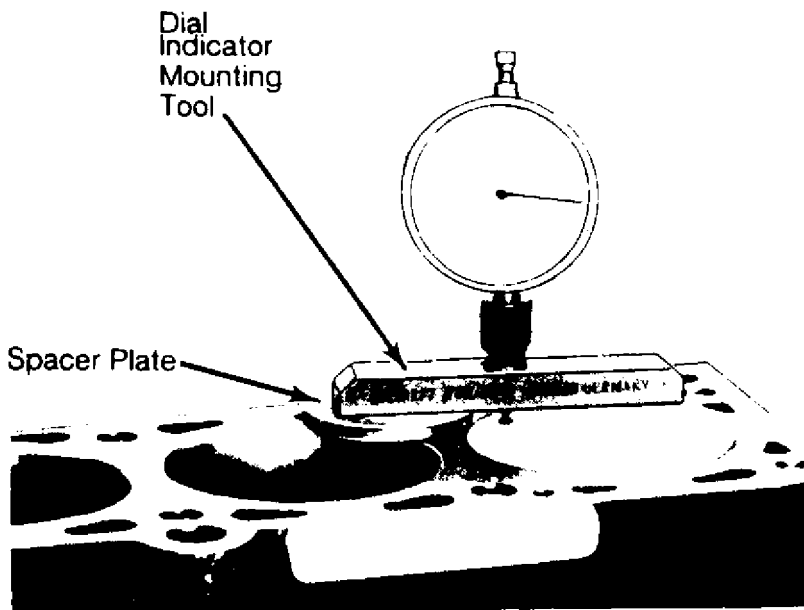

Fig. 1: Measuring Piston Projection
2) To determine proper head gasket, measure projection of piston above block at TDC. See Fig. 1. Select proper gasket from CYLINDER HEAD GASKET IDENTIFICATION table. Gasket must be installed with word "OBEN" facing up.